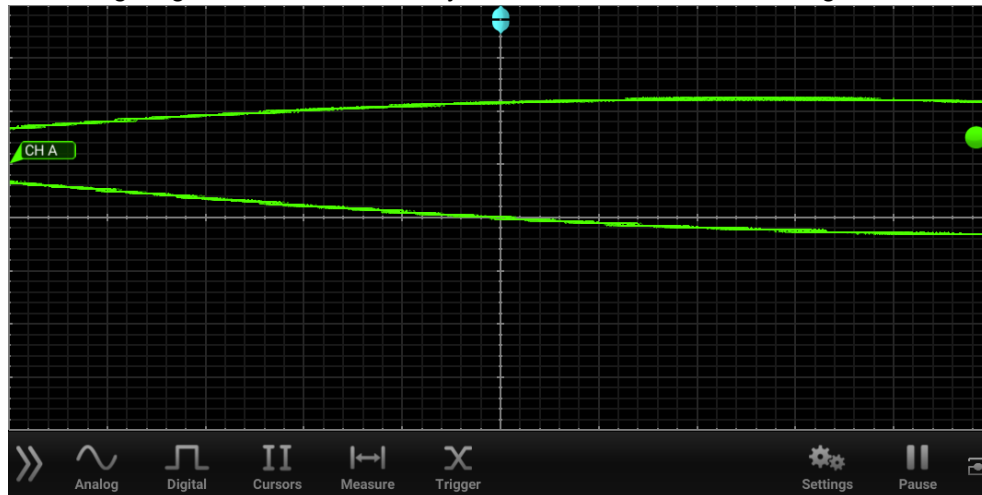

Figure 5. Example of Waveform from a 10kHz signal with default scaling.
1. When the signal generator is turned on, your screen will look similar to figure 5.